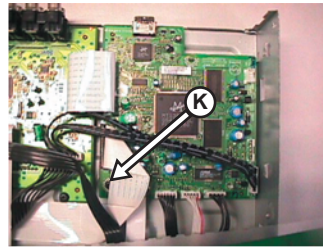
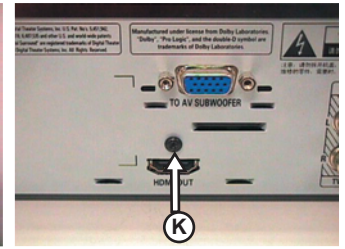

Figure 4-13
Figure 4-14
- 4) Loosen 2 screws (See Figure 4-13 & Figure 4-14) to remove PBCAS 9.1 Board.